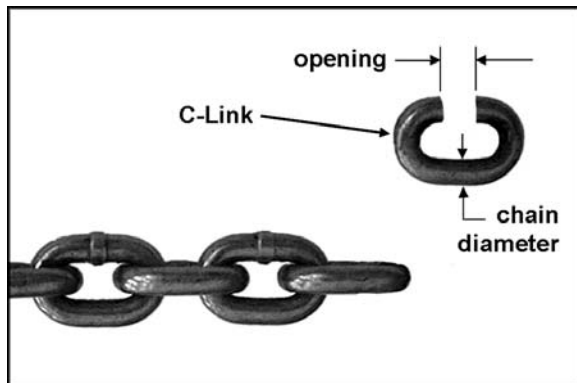

Figure 13
2. Cut the weld from the link leaving an opening approximately 1.25 times the diameter of the link material. See Figure 13.